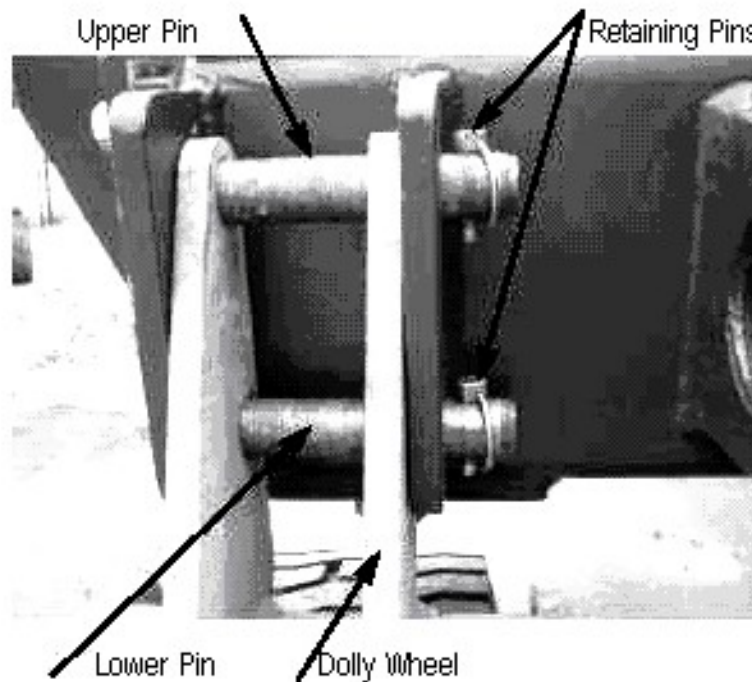

Figure 3-194
- (1) Place dolly wheel so that tire will be under the twistlock when wheel is lifted.
(2) Install upper pin from outside of tophandler. Lock pin in position with retaining pin (see Figure 3-194).